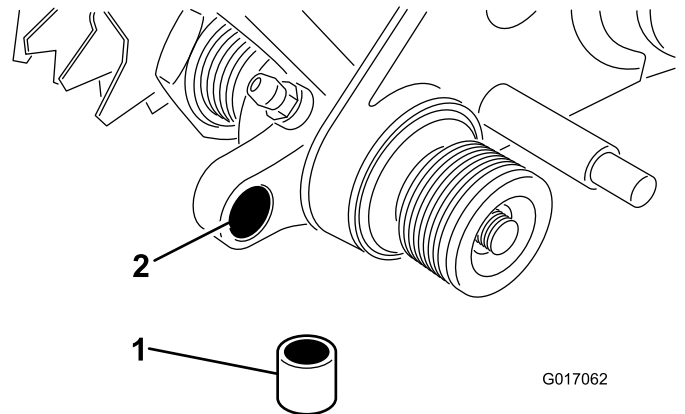

Figure 9
20. Insert a bushing into the hole in the left-hand groomer drive assembly (Figure 9).